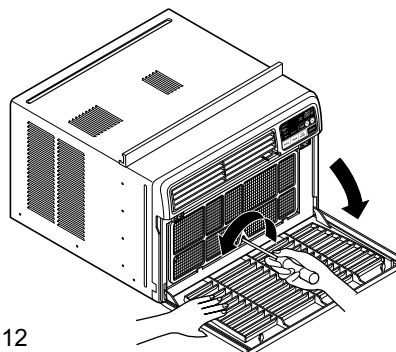

Figure 12
2. Remove the screw that fastens the front grille. (See Figure 12)